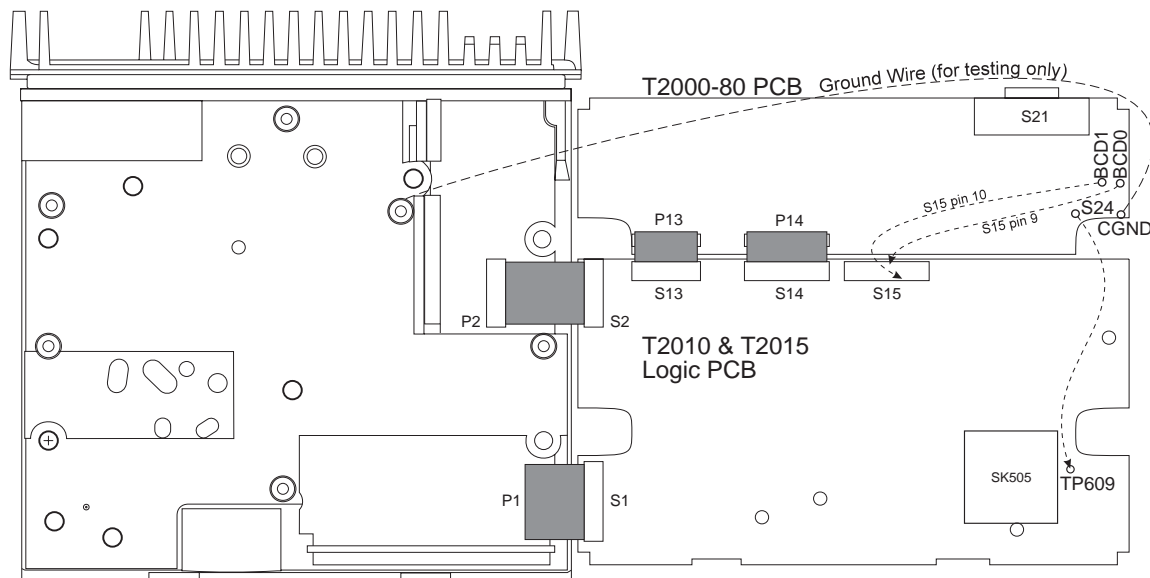

Figure 8.14.1 T2000-80 Line Interface PCB Mounting (T2010/T2015 shown)
- 1 Refer to Figure 8.14.1.
Connect a wire from S24 on the T2000-80 PCB to S609 on the logic PCB, as shown in Figure 8.14.1.
Connect the 2 BCD lines as shown in Figure 8.14.1.
- 2 If the logic and T2000-80 PCBs are unscrewed and folded out for adjustment, a wire should be temporarily fitted from the radio chassis to the options chassis ground pad (S35), as shown in Figure 8.14.1.